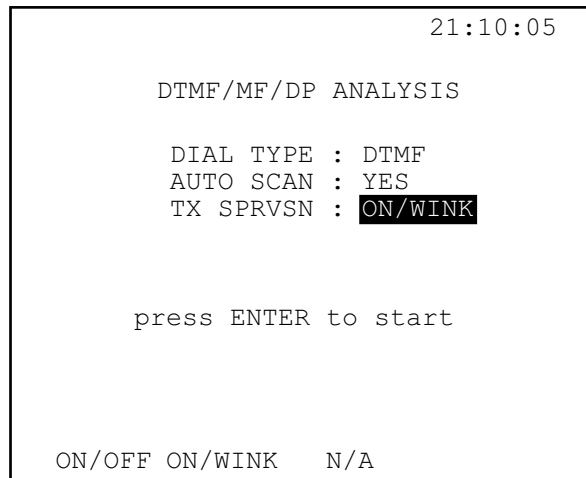

Figure 115 DTMF/MF/DP Analysis
1. Configure the DTMF/MF/DP Analysis, as shown in Figure 115. When finished, press the ENTER key on the keypad.